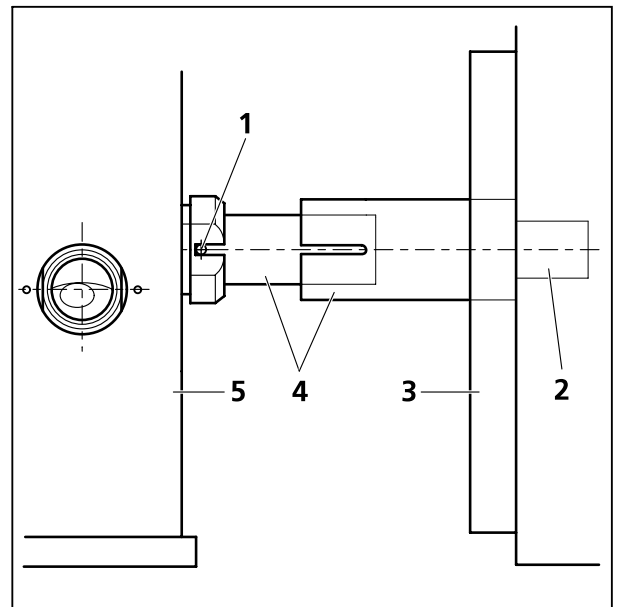

Fig. 1-25 Tube connection from the periscope housing (5) to the scan head (3). Applies for upright and inverted microscopes.
- First pull out the tube from the periscope cover (Fig. 1-25/5) by sliding the inner tube into the outer tube (Fig. 1-25/4).
- Turn the tube assembly counter clockwise to unscrew the tube (Fig. 1-25/4) from the small black tube (Fig. 1-25/2) which is fixed to the scan head (Fig. 1-25/3).
- For rearranging the beam housing, first screw the tube onto the small black tube (Fig. 1-25/2) at the back of the scan head (Fig. 1-25/3). It should not be fastened completely to allow the inner tube to fit the side pins into the recess of the ring on the periscope (Fig. 1-25/5).